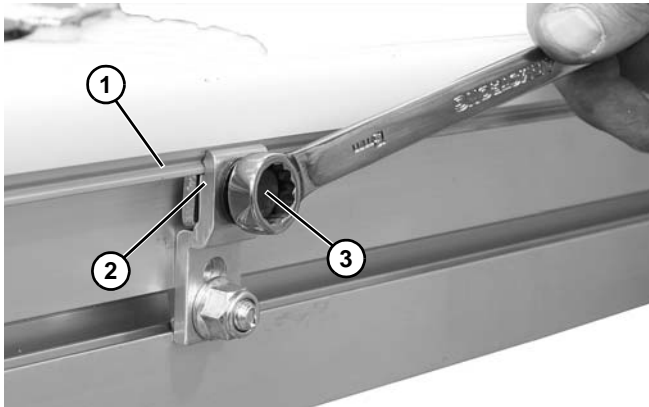

Figure 87
5. Attach guiding (Figure 87, item 1) to clip (Figure 87, item 2) and tighten screw (Figure 87, item 3).